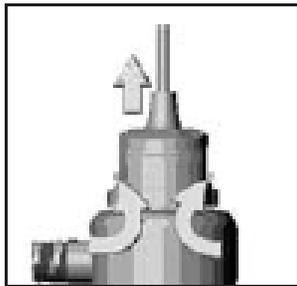
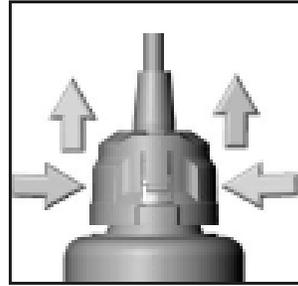

Figure 1
Figure 2
- 5. Remove the lamp harness: Release the safety clips by gently applying outward pressure on the finger tabs and push off the grey plastic cover (see Figure 1 on pg. 10) or gently squeeze the sides of the cover adjacent to the snap fingers (Figure 2). When the cover is removed you can pull the lamp plug off the lamp end (Figure 3). Caution: Do not pull on the lamp harness cord to remove the plug.**